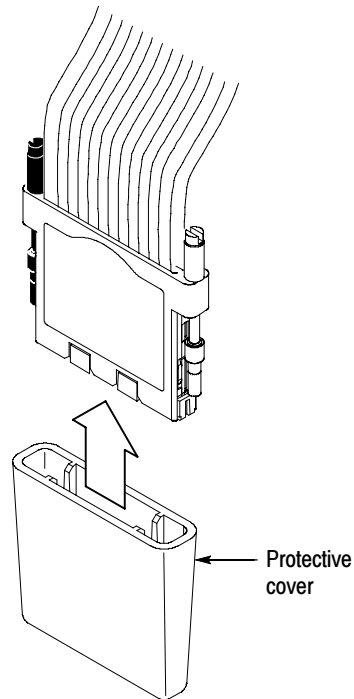

Figure 14: Protecting the probe heads
- Always store the probe head in the protective cover when not in use. See Figure 14 on page 19.
To protect the interface clip, it is important to properly store the probe heads when the probes are not in use. See Figure 14.